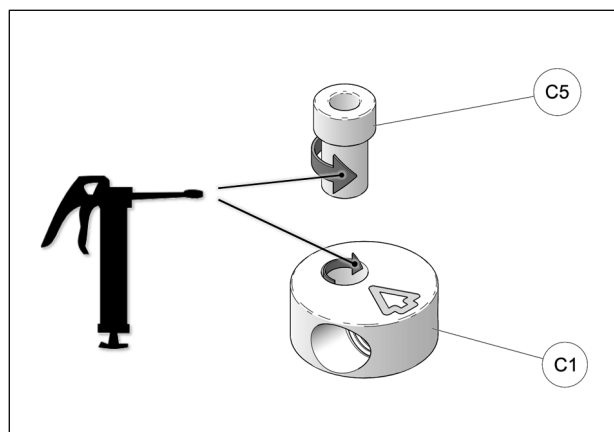

Fig. 22
13. Apply grease evenly all around step spacer bushing (C5) and in hole of aluminum disk (C1) when assembling these parts together. See Fig. 22